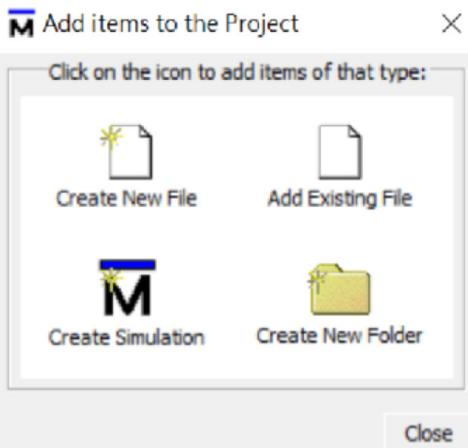

Fig. II.2. Add Existing File
4. Once the project is named, a window will pop up prompting to select what files need to be added. Select ‘Add Existing File’ as shown in Figure II.2. And then click ‘Browse’ for